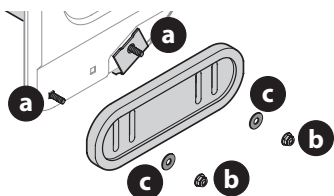

Figure 71
2. Rotate and reassemble new skid shoes with four carriage bolts (a) (two on each side) and hex flange nuts (b) and flat washers (c) (Figure 71).